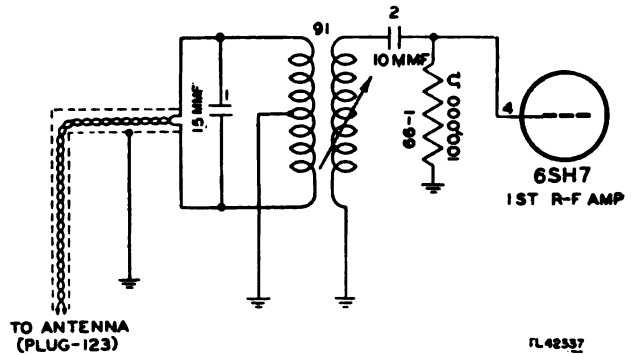

Figure 26. Coupling of antenna to r-f section.
**a. INPUT CIRCUIT.** The radio energy which is picked up by the receiving antenna is fed to the receiver and is applied to the one-turn primary of the first r-f transformer. The method of coupling the antenna to the r-f section is shown in figure 26. The coupling coil consists of a half turn of silver-plated wire placed in axial symmetry with the first r-f amplifier tuning coil. The coupling coil is grounded at its midpoint and in parallel with it is